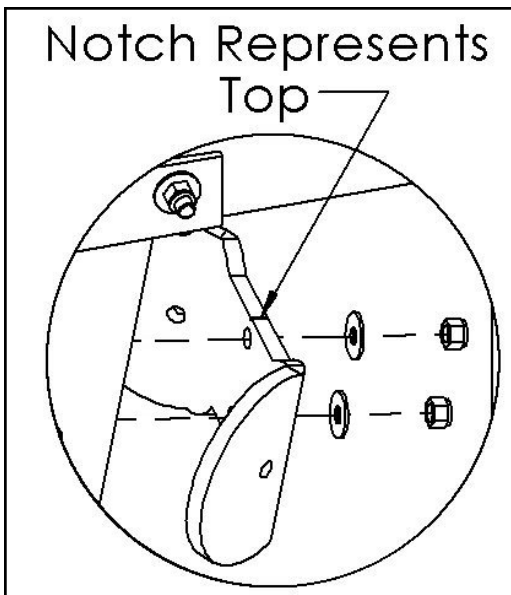

Figure 2A
*Note: The Pec Pulley Holder can very easily be put on upside down. Note that the notch represents the top, as shown in Figure 2A.*